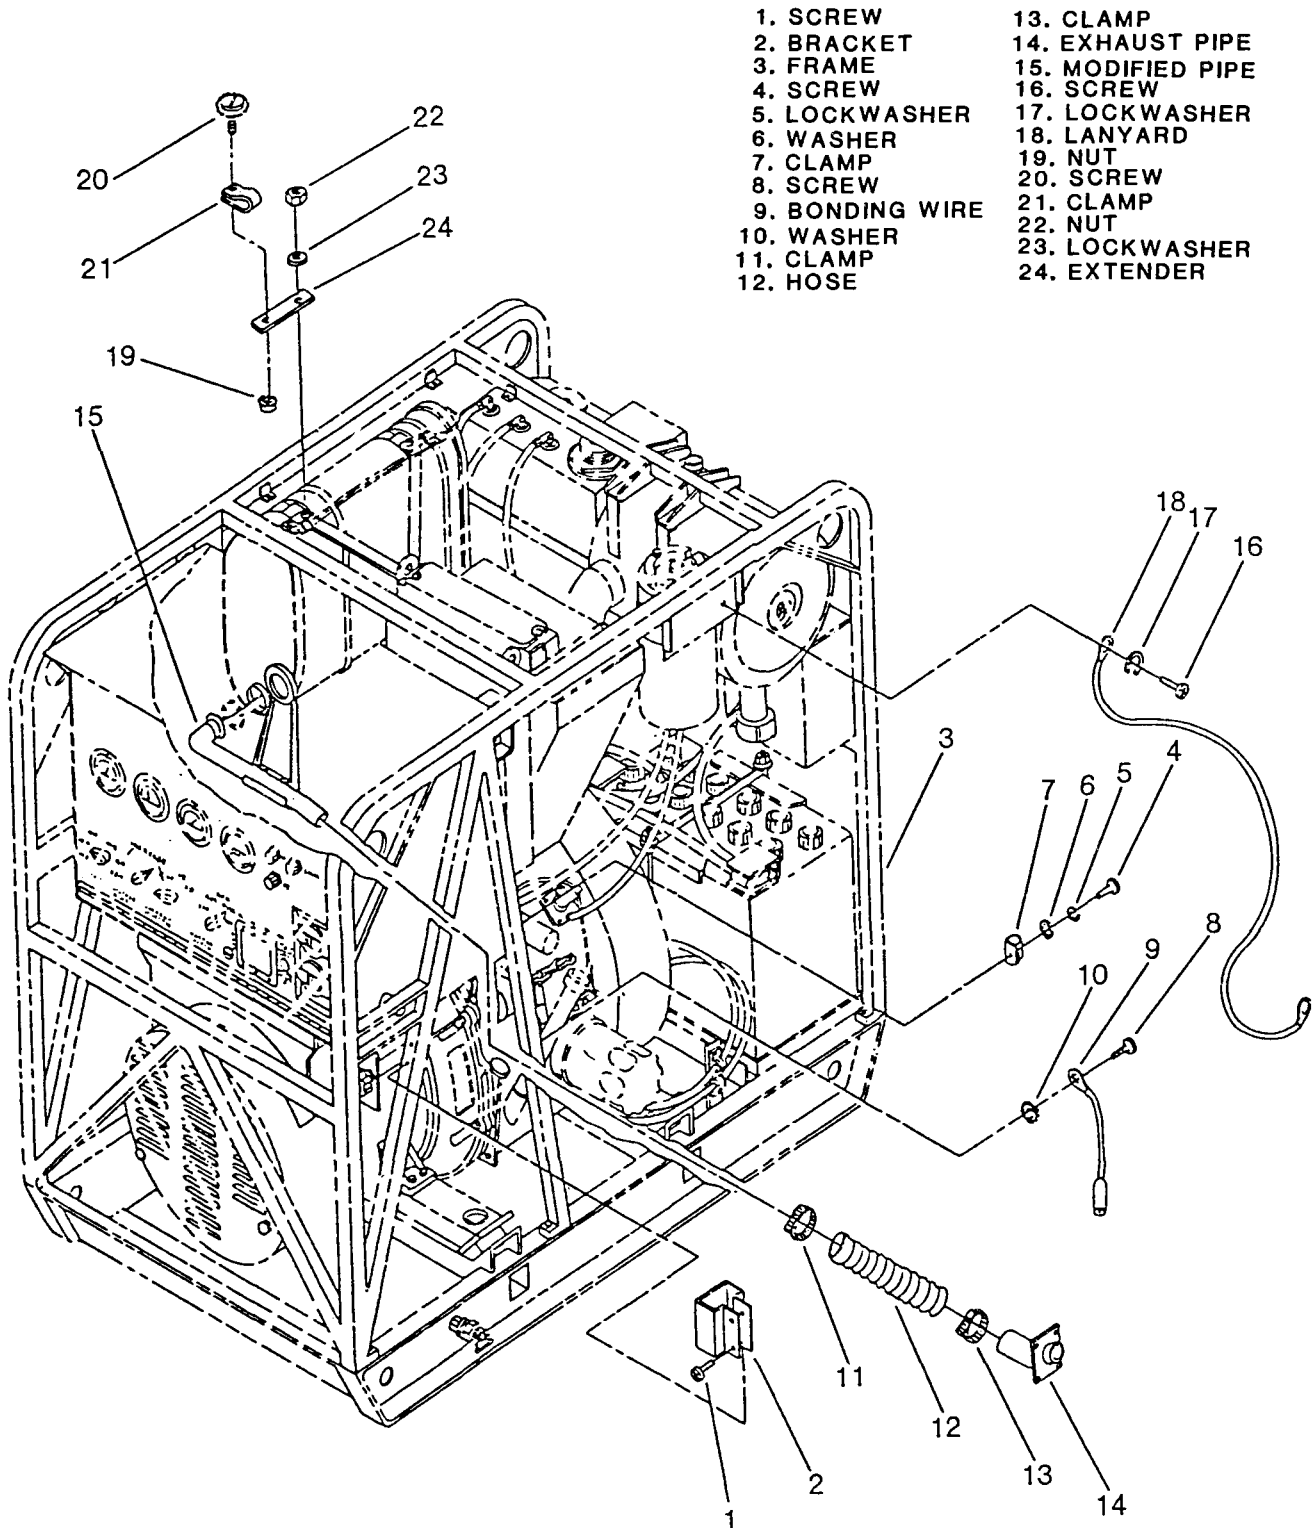

Figure 5-15. Generator ASK Items, Right Front, Three-Quarter View.
5-28. CAPACITOR BRACKET, MODIFIED GENERATOR. (See Figure 5-15.)
- (1) Perform Removal steps for Panel 5, given in paragraph 5-21a, for capacitor C4 bracket on Panel 2, paragraph 5-14b, for capacitor C3 bracket.
- (2) Remove four screws (1, figure 5-15) from bracket (2) and remove bracket from generator frame (3).
5-29. LOAD CABLE CLAMP, MODIFIED GENERATOR. (See Figure 5-15.)
- (2) Remove screw (4, figure 5-15), lockwasher (5), and washer (6) from frame (3) and remove clamp (7).
5-30. BONDING WIRE ASSEMBLY, MODIFIED GENERATOR. (See figure 5-15).
- (2) Remove screw (8, figure 5-15), wire (9), and washer (10) from frame (2).
5-31. MODIFIED EXHAUST PIPE, FLEXIBLE EXHAUST TUBE, AND EXHAUST PIPE ASSEMBLY, MODIFIED GENERATOR. (See figure 5-15).
5-32. LANYARD CABLE ASSEMBLY, MODIFIED GENERATOR. (See Figure 5-15.)
(2) Remove locknut (38) and washer (39) securing lanyard to Fan 2 Mounting and remove one end of lanyard. Reinstall locknut and washer back onto Fan 2 screw.
(3) Completely remove lanyard cable (18, Figure 5-15) by removing screw (16) and lockwasher (17).
(1) Install one end of lanyard cable (18, Figure 5-15) by removing locknut (38, Figure 5-10) and washer (39) previously reinstalled on fan mounting screw in Removal procedure, step (b) above.
(2) Place lanyard cable onto screw and install washer (39) and locknut
(3) Holding service door access in place, secure other end of lanyard cable by installing lanyard (18, Figure 5-15), lockwasher (17), and screw (16).
5-34. CABLE CLAMP EXTENDER, MODIFIED GENERATOR. (See Figure 5-15.)